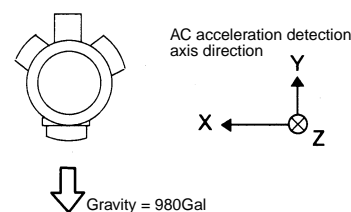

Figure 2B Y-axis FSG measurement ( $\alpha Y_{+980}$ )
(2) Put this unit in the posture shown in Figure 2B.